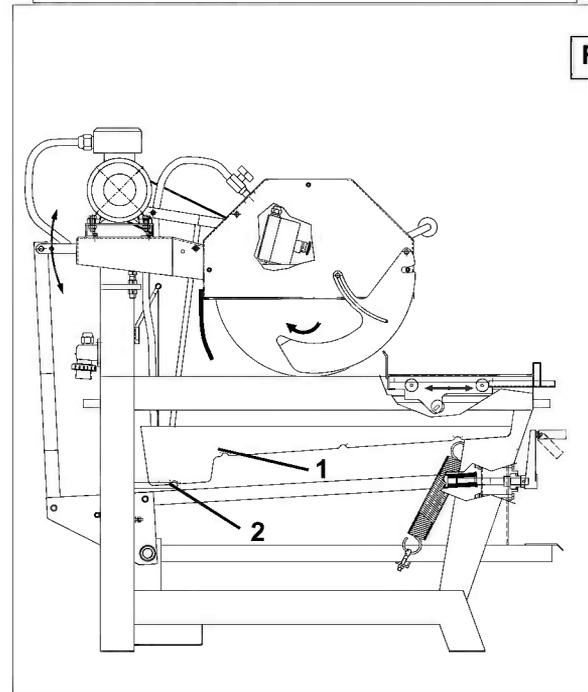

Fig. 7
17.2 TANK REMOVAL (Ref.Fig.7).